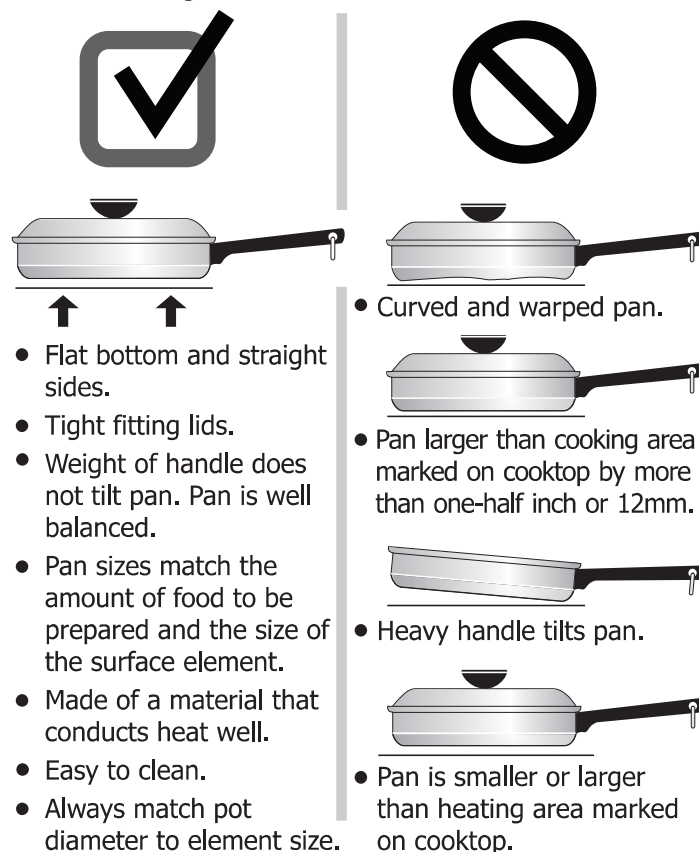
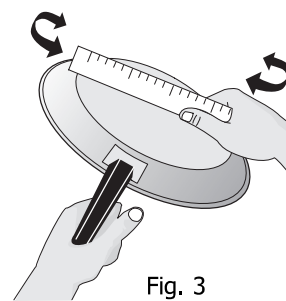

Fig. 2
Fig. 3
Bake Element - Fig. 3\*
hidden bake element (Fig. 3\*)
4. Assemble one connector arm at a time. With the oven door open and the oven rack in place, install one end of the connector arm to the hole in the **door connector bracket** (Fig. 1) and the other end in the hole in the **rack connector bracket** (Fig. 2 and as in Fig. 3). The oven rack may need to be adjusted in or out in the rack position to match the length of the connector arm.
The size and type of cookware used will influence the setting needed for best cooking results. Be sure to follow the recommendations for using proper cookware as illustrated in Figs. 2 & 3.
Cookware should have flat bottoms that make good contact with the entire surface heating element (See Fig. 2). Check for flatness by rotating a ruler across the bottom of the cookware (See Fig. 3).